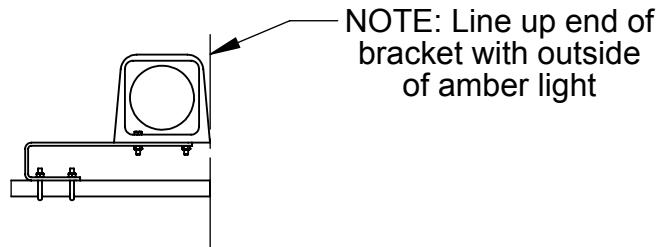

**Fig 1. When charging the circuit, prop up cylinder with block of wood. Be sure the rod can extend freely without striking anything.**
1. Prop up the cylinder with a block of wood (Fig 1). Check to see that the rod will extend completely without striking anything.